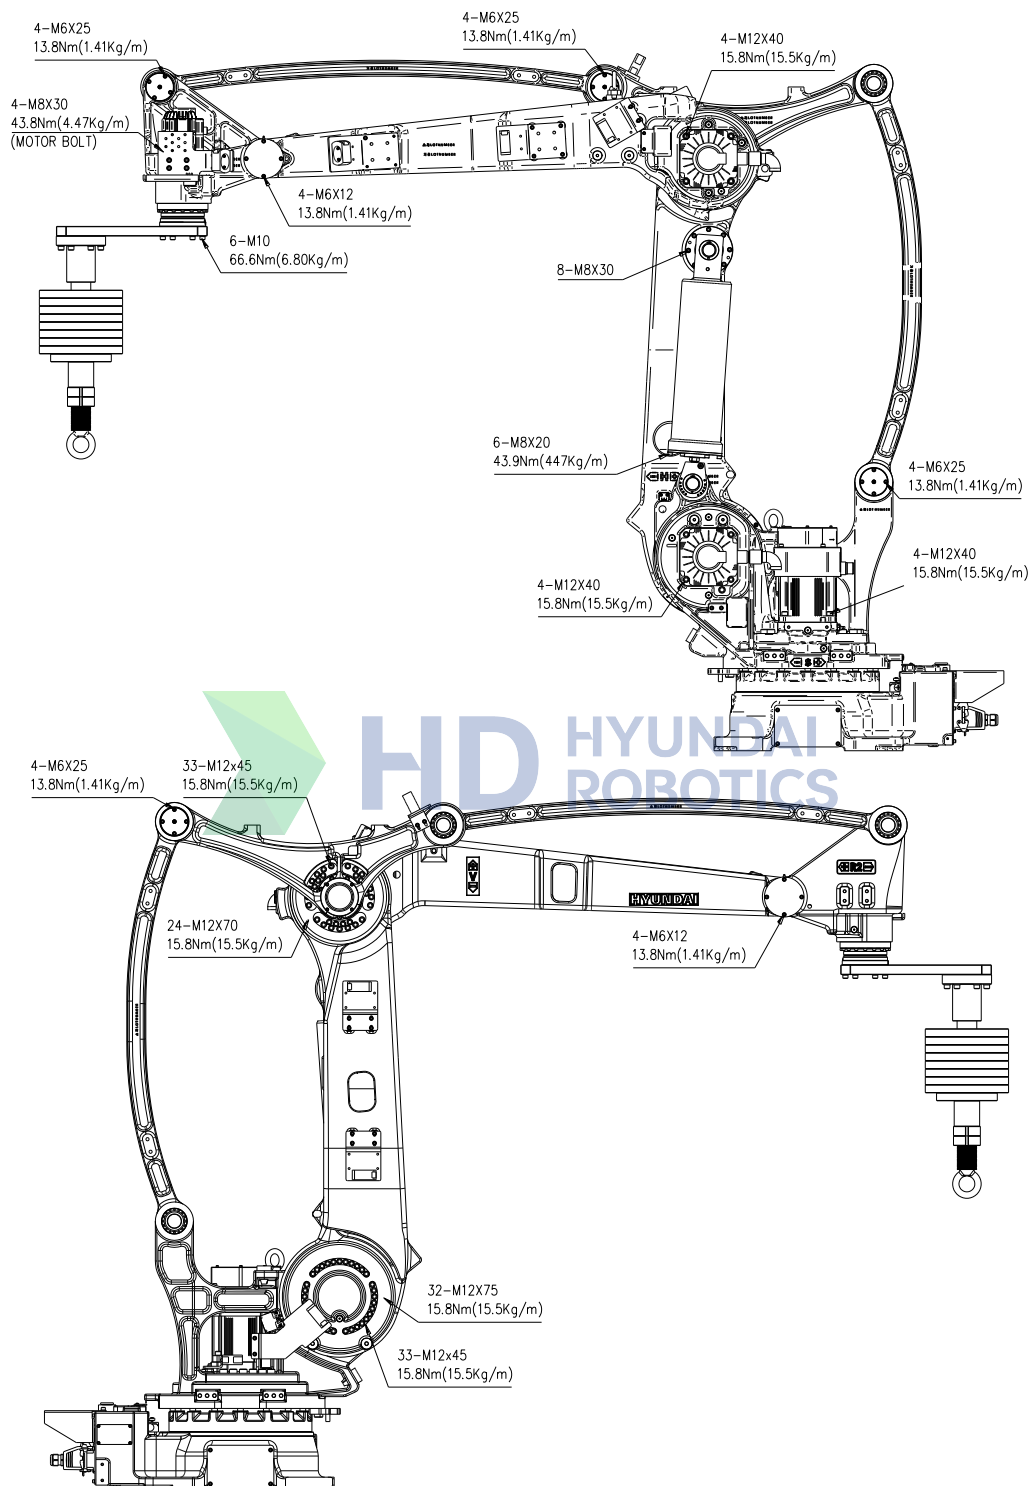
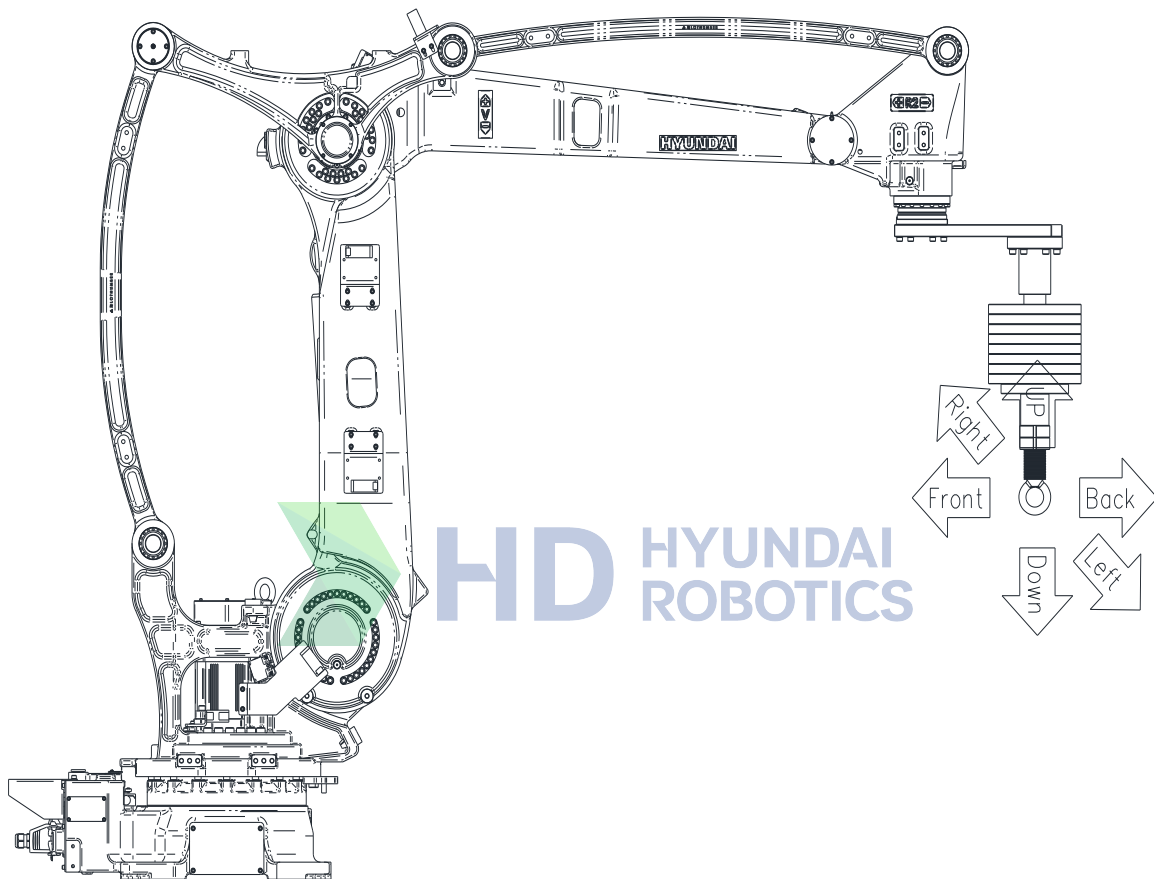

Figure 4.1 Inspection Part for Main Bolts
Figure 4.2 Abnormal Backlash Inspecting Directions
- Check the tightening torque of main bolts as shown in [Figure 4.1]~ [Figure 4.2] .
The recommended bolt torque is shown in [Figure 4.1] ~ [Figure 4.2].